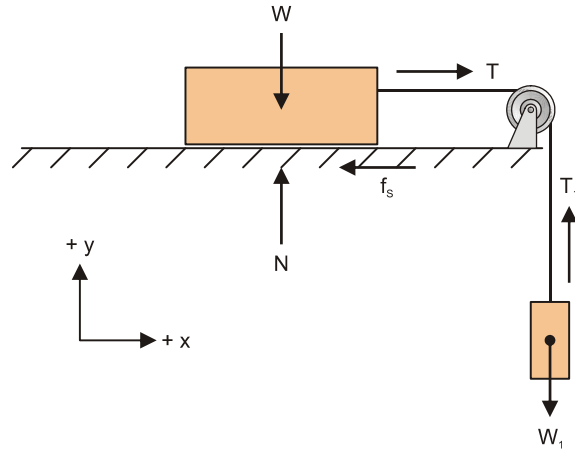
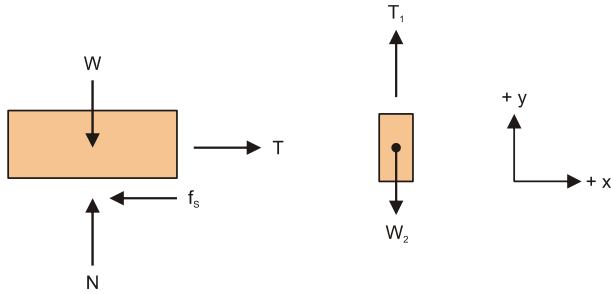
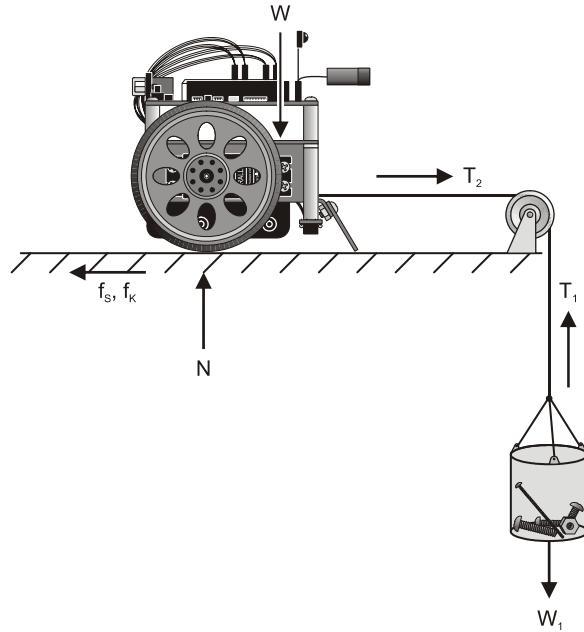

Figure 1-11
Figure 1-12
Figure 1-14
Problem: It took a 700 g mass (W_1) hanging from this pulley system shown in Figure 1-11 to make a 2100 g mass (W_2) start to slide. Find the coefficient of static friction, μ_s .
Solution: If the system is exactly at $T = f_{s,Max}$, nothing is moving yet. From Figure 1-11, we know that T and T_1 are equal and opposite:
The next step is to draw separate free body diagrams for each object (see Figure 1-12). The sum of the forces for the hanging block should add up to zero:
Figure 1-14 shows the setup you will use to test frictional forces.
- √ Build the system shown in Figure 1-14.
- ✓ Draw free body diagrams and write the equations for Figure 1-14. Use the problem and solution with Figure 1-11 and Figure 1-12 as your guide.